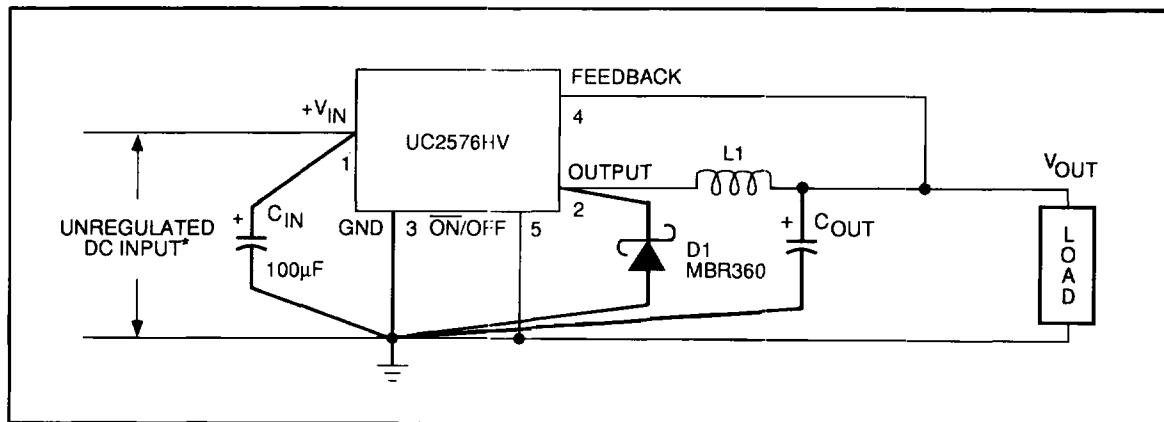

FIGURE 1
### TEST CIRCUIT AND LAYOUT GUIDELINES (Figure 1)
SYSTEM PARAMETERS (Note 2) Test Circuit Figure 1
ON/OFF CONTROL Test Circuit Figure 1
**Note 2:** External components such as the catch diode, inductor, input and output capacitors can affect switching regulator system performance. When the UC1576/UC2576 is used as shown in the Figure 1 test circuit, system performance will be as shown in system parameters section of Electrical Characteristics.
### Typical Performance Characteristics (Circuit of Figure 1)